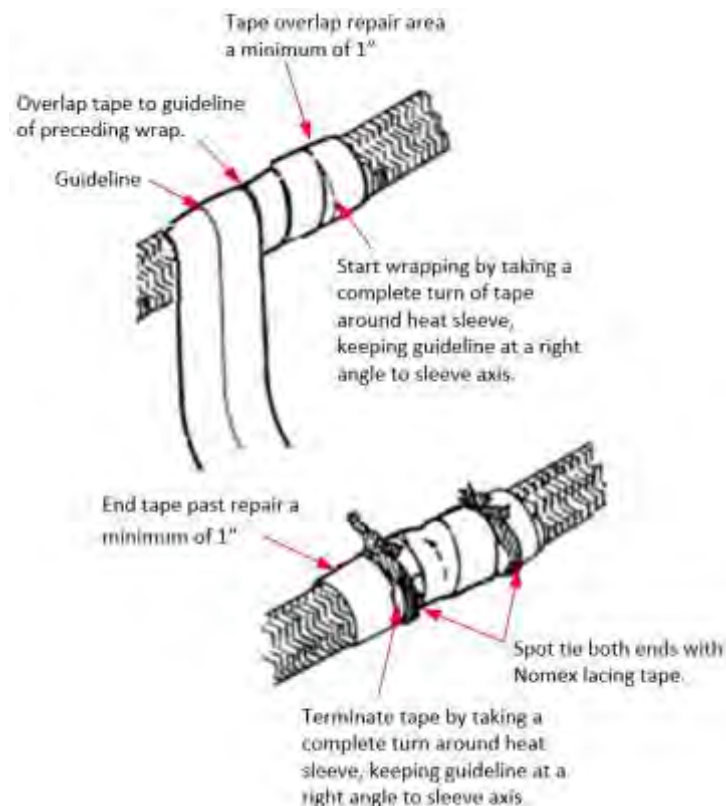

Figure 223
- (h) If the sealant does not separate from the silicone part of the heat sleeve, wrap the repair as follows (See Figure 223):